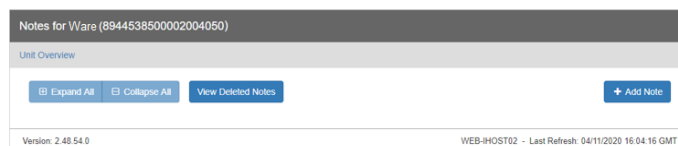
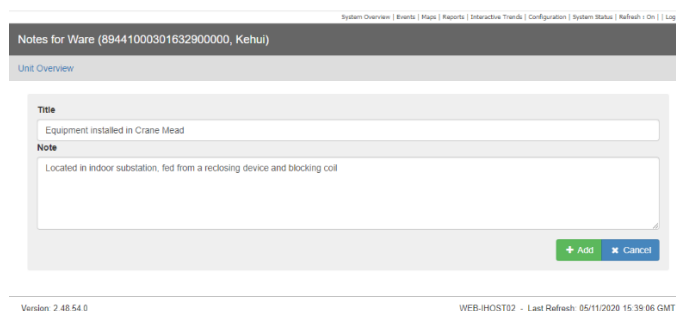

Figure 12.25a Notes access page
Figure 12.25b Notes page with note added
Notes can be added to the record to provide any additional information which the user considers to be useful, such as a description of the cable being monitored. Notes can be added by clicking “view” in the notes segment of Figure 12.6 section ④. This brings up the page in Figure 12.25a, clicking on “+Add Note” allows the note to be written (figure 12.25b), which will then appear in the unit overview (figure 12.25c).